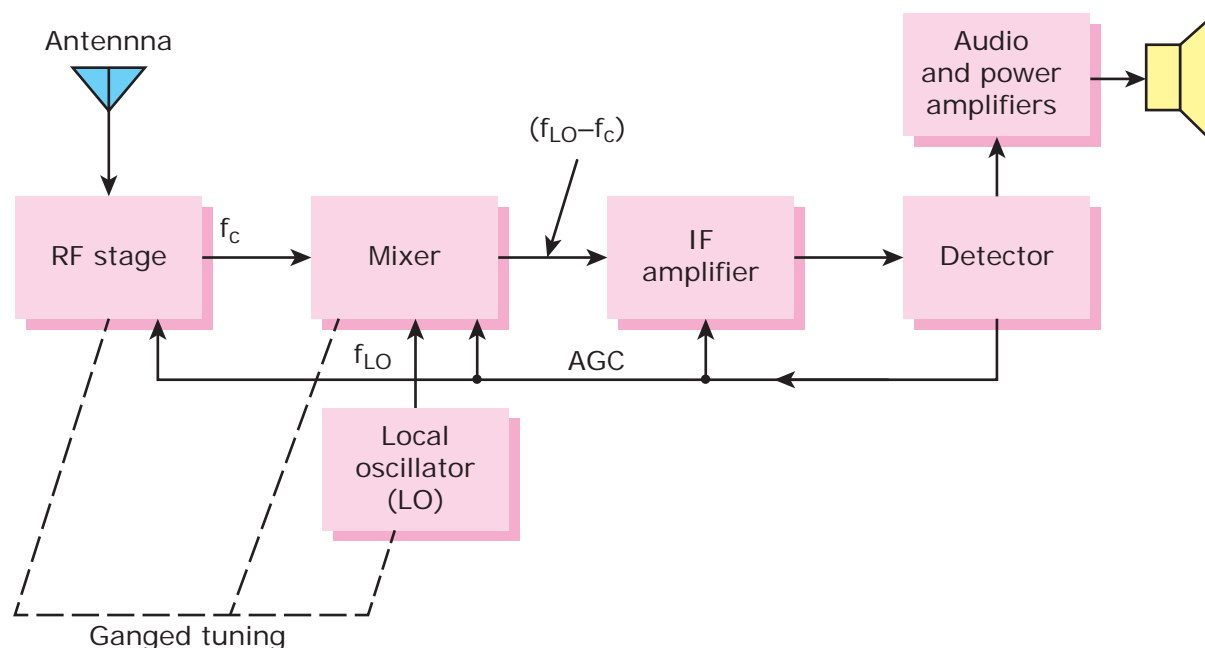

FIG. 3.8 Block diagram of AM radio receiver
A receiver which receives amplitude modulated radio signals is called amplitude modulated (AM) radio receiver. Figure 3.8 shows the block diagram of AM radio receiver.